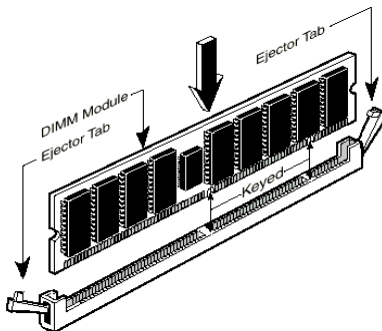

Figure 2-6. Memory module installation
Step 5. Insert the DIMM module into the expansion socket as shown in the illustration. Note how the module is keyed to the socket. You can refer to Figure 2-6 for the details. *This insures*